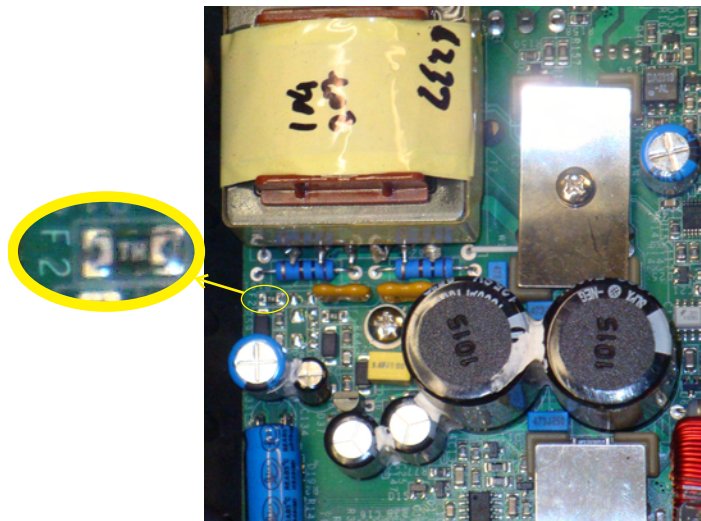

Figure 3. Location of fuse F2.
6. Locate the SMT fuse F2, which is near the power transformer (see Figure 3). Unsolder and remove it (if accessing F2 would be easier with the circuit board out of the "bucket," then remove the board before you unsolder F2).